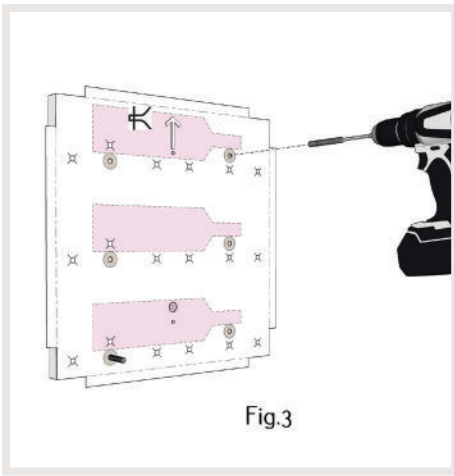
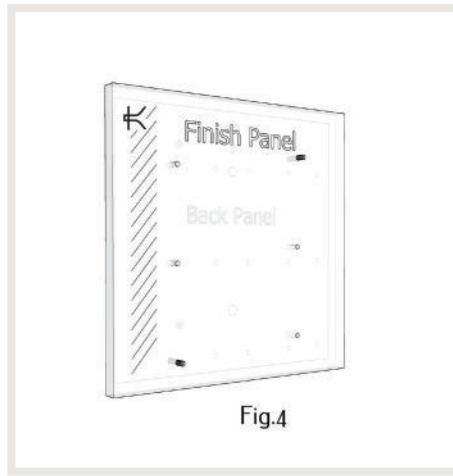

Fig.3
Fig.4
- a. **Posts are label forward** wine display (see fig 3)
- b. **Pegs are neck-out** wine display (see fig 4)
5. Using a drill with supplied driver, install (2) set-screws per panel. **\*Fig3**
- a. Note: for 14x14, 14x28 and 14x42, initially install only (2) screws total per back-panel
6. Install the decorative top-panel over the (2) set screws. **\*Fig4**